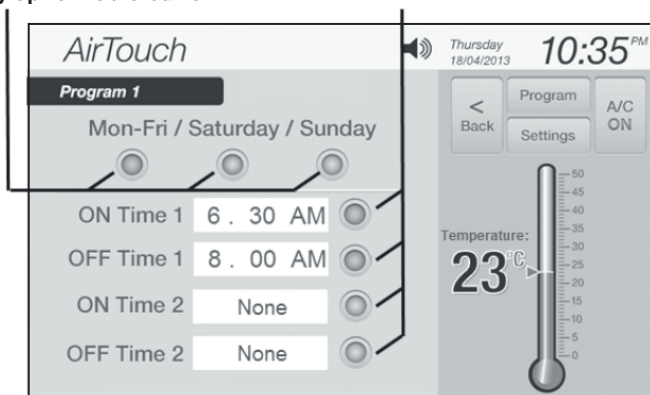

Figure 5
- Touch the button of the program (e.g. **Program 1**) or **AC Timer** on 'programming' screen (Figure 4) to enter the screen (Figure 5) to adjust the program time.